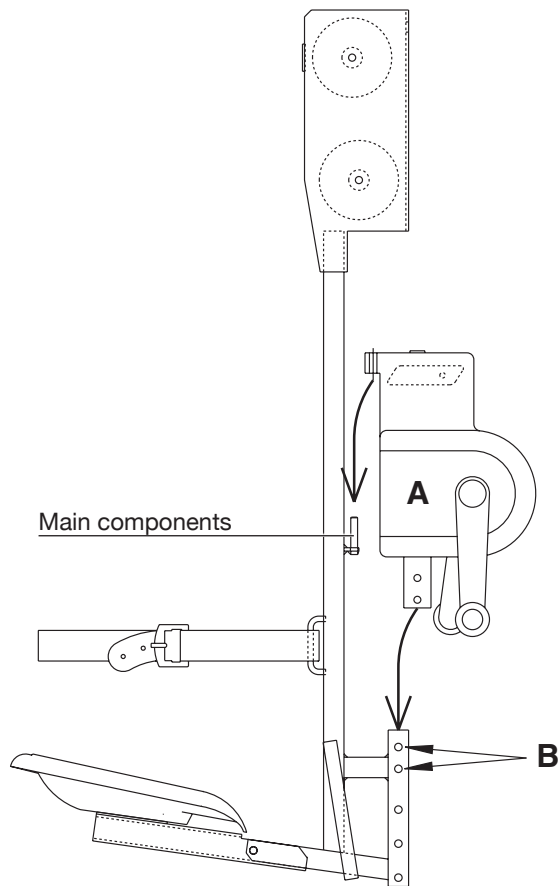

Fig. 3 - SCAFOR™ hoist installation
Fix the hoist by inserting the top part into the frame guide pin and moving it from top to bottom in relation to frame (A), (Fig.3)